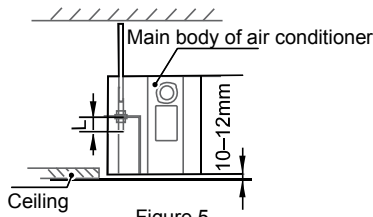

Figure 5
- Take approximately 1/2 of the screw length for the installed hooks as the excess length L, as shown in Figure 5.
- Adjust the position of the unit, and make sure that the gap with the ceiling is evenly spaced on all four sides of the unit, and the base of the unit is 10–12 mm into the base of the ceiling (see Figure 5).